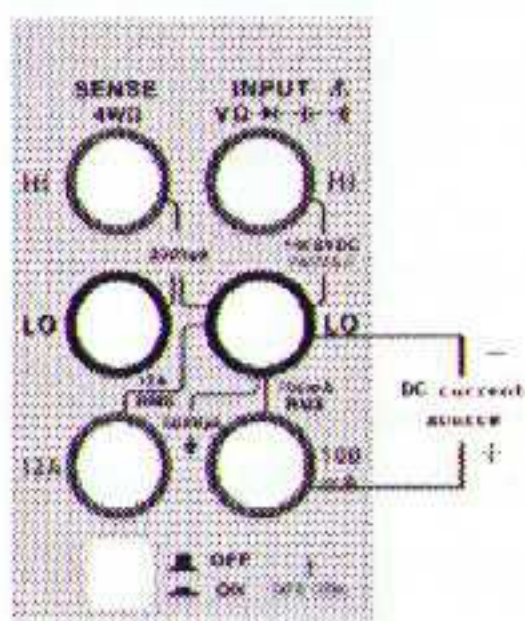

Figure 4-6 Wiring method for low current measurement
2. Choose different test terminals according to the measurement level. See Figure 4-6 for current of 200mA and below, and connect the red and black test leads respectively to the proper input terminals. See Figure 4-7 for current from 200mA to 10A, and connect the red and black test leads respectively to the proper input terminals.